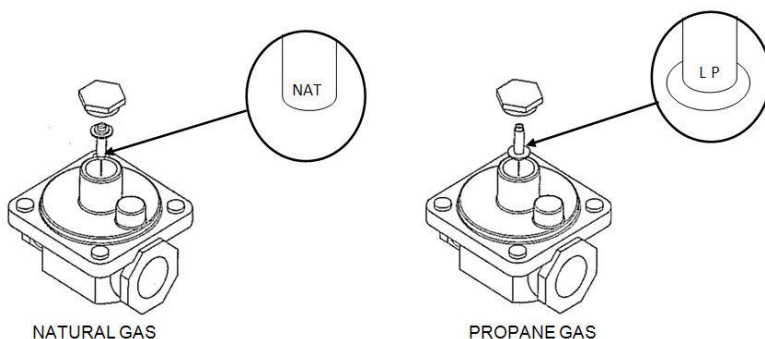

Fig. 5
3. Set the regulator to 10" W.C. by inverting the regulator spring plug. See Fig 5.